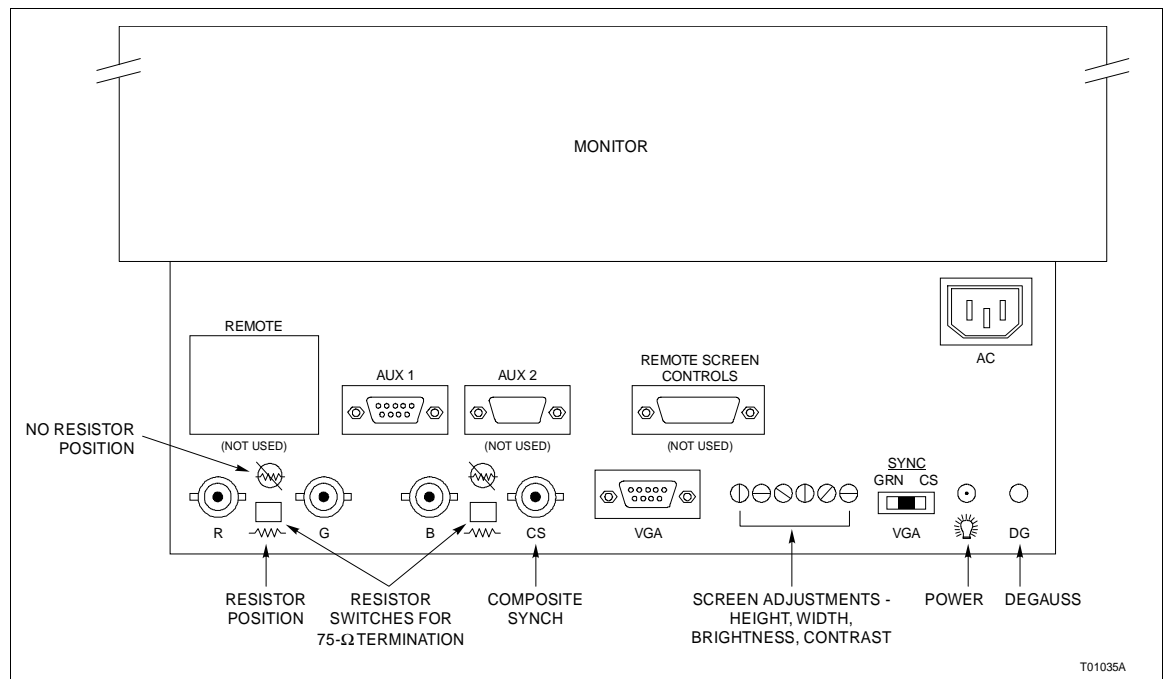

Figure 6-9. Color Monitor Connections
Figure 6-9 identifies the color monitor connections.
8. Before installing a new monitor, make certain the resistor switches are set to **resistor** to insure that the termination is set for 75 ohms and that the VGA sync switch is set to **VGA** (Fig. 6-9).